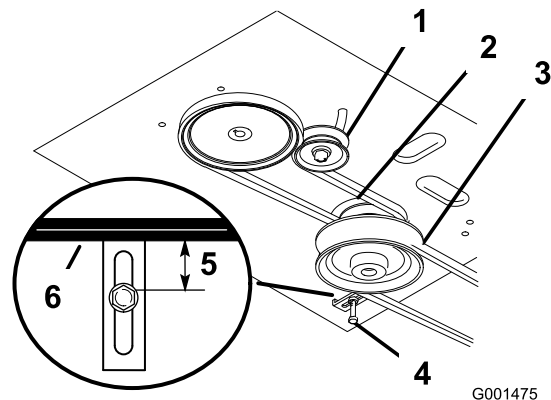

Figure 37
4. Remove the mower belt (Figure 37).
5. Loosen the pivot bolt enough to slide the idler pulley in the slot, and remove the traction belt from the engine and drive pulleys (Figure 37).
6. Install the new drive belt around the engine and drive pulleys (Figure 37).
7. Slide the idler pulley in the engine frame to tension the traction belt (Figure 37).
8. Install the mower belt (Figure 37).
9. Check the belt guide under the engine frame for the proper adjustment (Figure 37).
13. Check the belt guide under the engine frame for the proper adjustment (Figure 37).